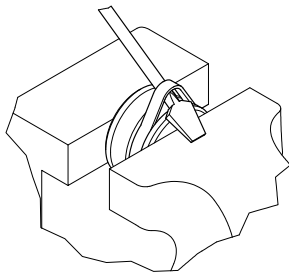

Figure 6-7, Piston Seal
2. Note the direction of the seal on the piston. Improper installation will result in poor performance. The cupped side or O-ring side of the seal should be facing the gland cap. (Figure 6-7)